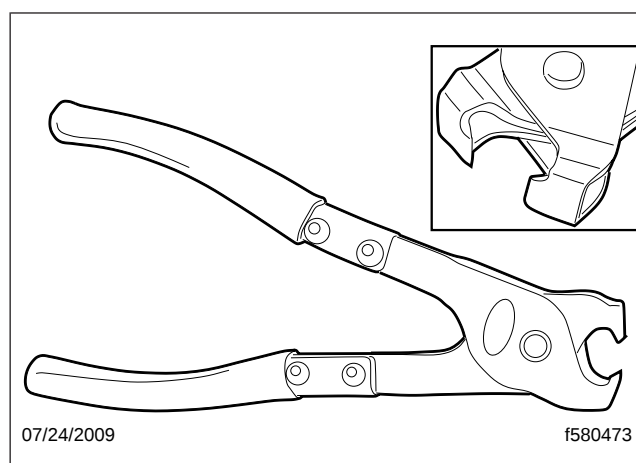

Fig. 4, Oetiker Clamp Tool, P/N 14100037 or 14100082
13.3 Using an Oetiker clamp tool (**Fig. 4**), crimp the small and large Oetiker bellows clamp ears until the ear width is 0.08 to 0.16 in (2 to 4 mm). See **Fig. 5** and **Fig. 6**.